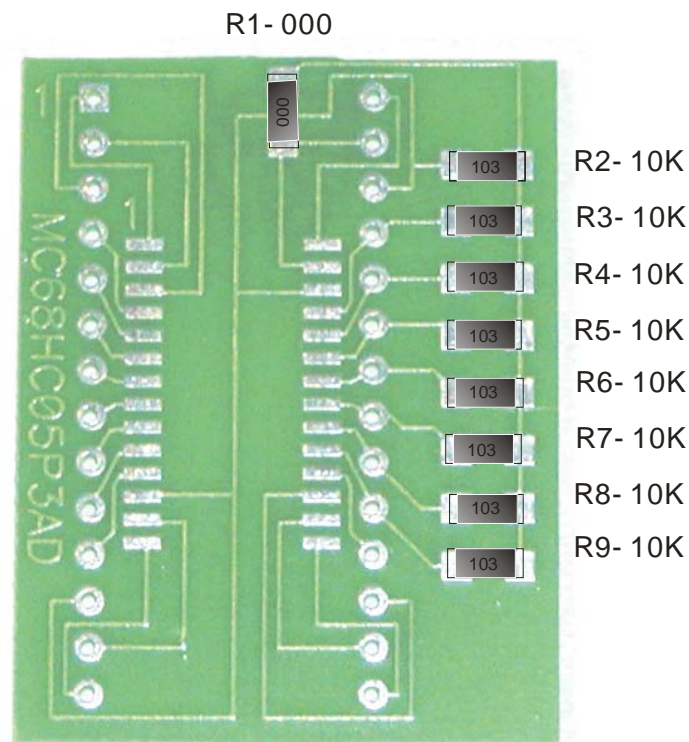

FIGURE 1
2. Insert programming adapter into Target IC socket (see Figure 1) according with 1-pin orientation
Figure 1 shows the layout of the MC68HC05P3 (1E25BH) programming adapter. All resistors size 1206. As shown in the figure there are special mode to configure MCU according with programming requirements. Make sure before programming device that MC68HC05P3 (1E25BH) place on corresponding programming adapter MC68HC05P3AD.